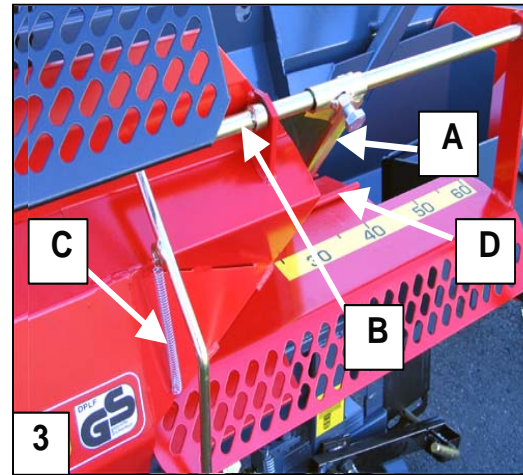

Fig. 3. Installing the log-stop,
2.4 Assembly of the log-stop, Figure 3